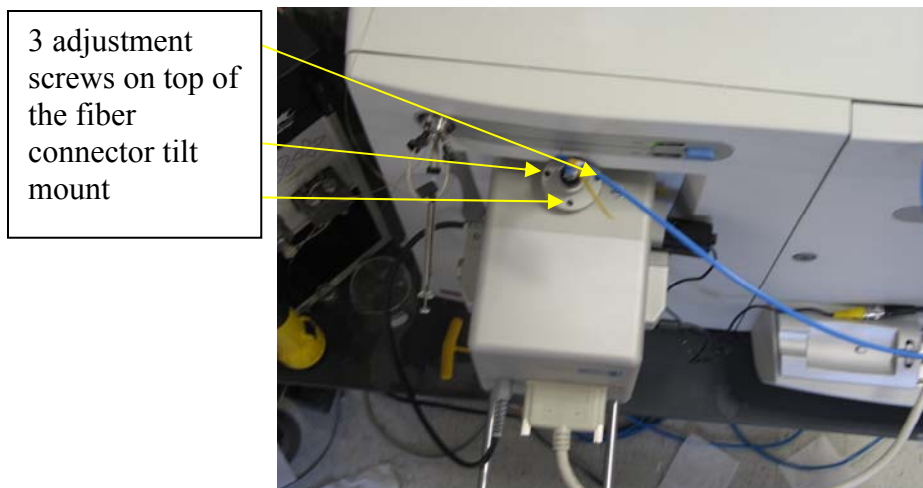

Fig. 8-6. Adjustment of the Laser position by tightening/loosening screws on the fiber connector tilt mount.
Step 3. Continue with the same spot. Switch ON the laser at maximum power (minimum attenuation). Using a hexagonal screwdriver, turn the three screws (see Fig. 8-6).
Now you can set the best attenuation, appropriate for your matrix, shift the target to a new fresh spot and prove that the sensitivity is better. Alternatively, the position of the laser focal spot can be adjusted by a rotation of tuning screws (Fig. 8-6) based on the quality of the MS signal by a trial-and-error method.